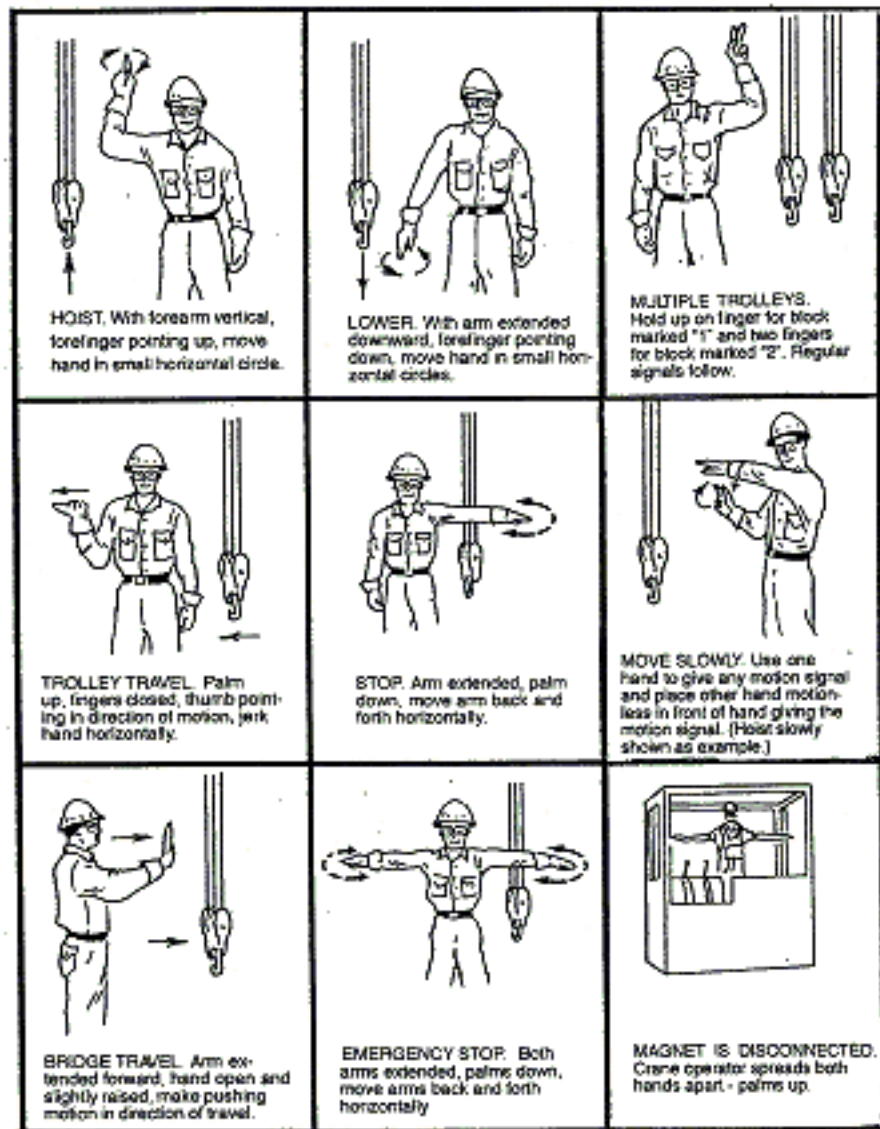

Figure 1. Standard Hand Signals
- (l) Standard crane signals are used and loads are not moved unless the Standard Signals are clearly given, see and understood. See Figure 1.